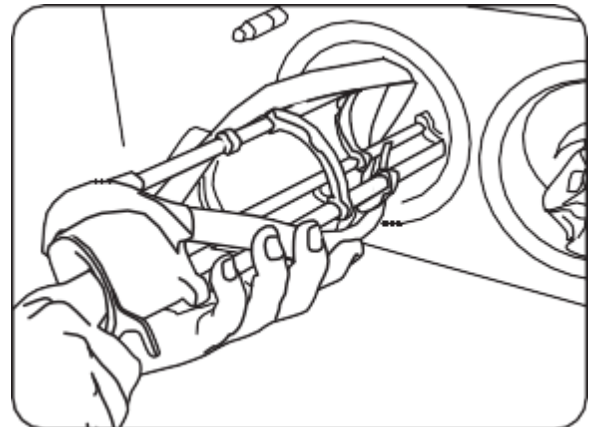

Figure 23
3. Insert the assembled beater over the drive shaft and into the freezing cylinder. (Figure 23)